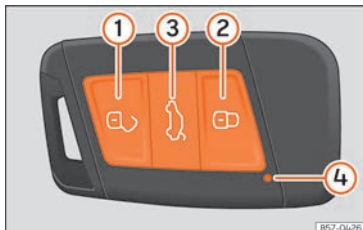
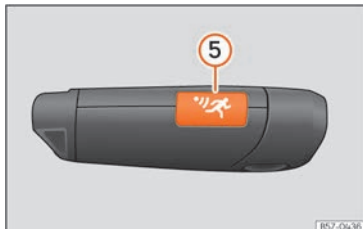

Fig. 73 Vehicle key
Fig. 74 Vehicle key with alarm button.
Key to the » Fig. 73, » Fig. 74
When a button on the vehicle key is briefly pressed, the indicator lamp flashes ④ » Fig. 73 once briefly, but if the button is held